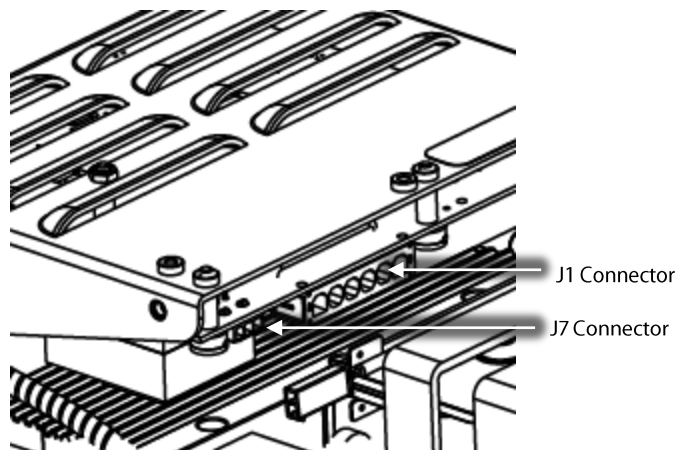

Figure 5 – Soft Start Connections
1. Disconnect the J1 and J7 connectors on the Soft-Start Board. Refer to Figure 5 – Soft Start Connections.
3. Connect the two (2) plugs of the DC Bus Test Harness into the Soft Start. Refer to Figure 5 – Soft Start Connections.